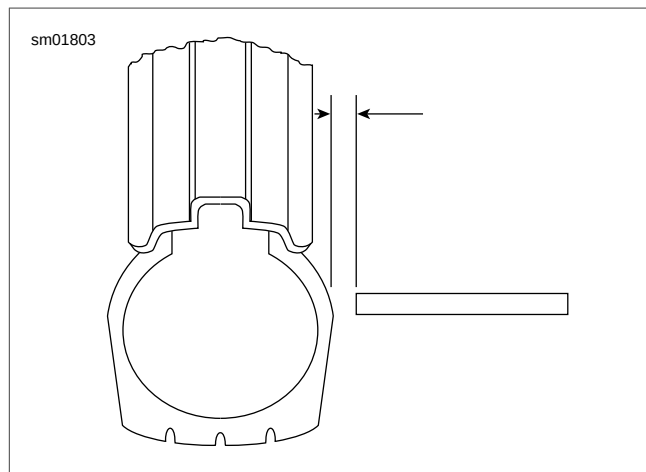

Figure 2-156. Checking Tire Lateral Runout
1. See Figure 2-156. Turn wheel on axle and measure amount of displacement from a fixed point to tire sidewall.